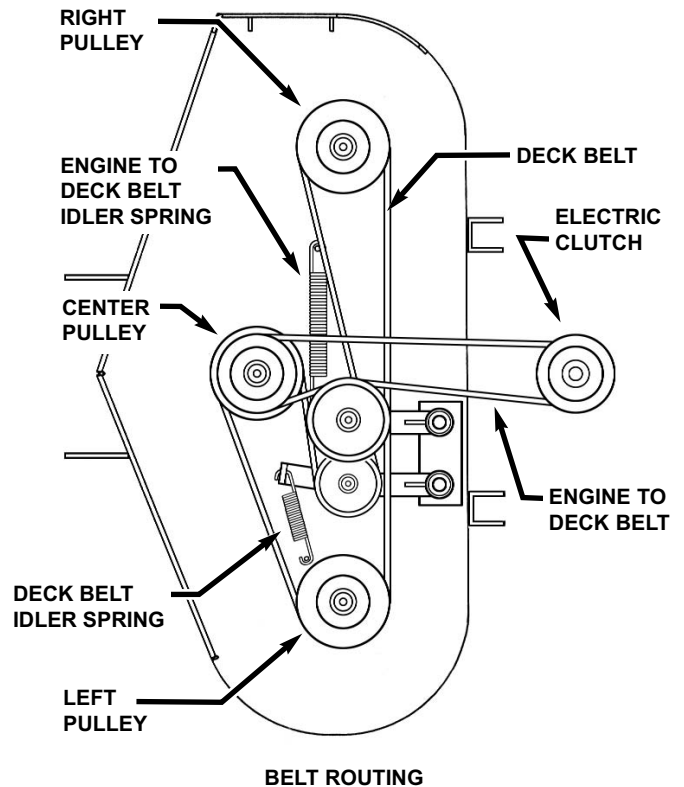

FIGURE 5.13
4. Remove old deck belt. Note the belt routing. See Figure 5.13.
2. Route deck belt around blade pulleys and idler pulley in the same position as old belt was removed. See Figure 5.13.